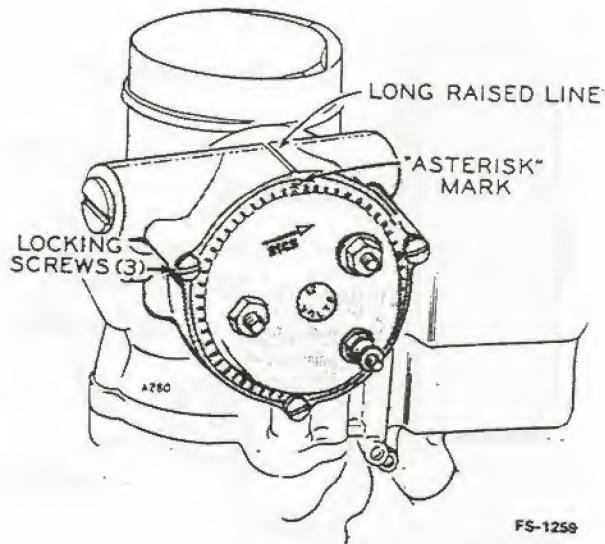

FIGURE 24. ELECTRIC CHOKES
**Electric Choke:** A 12 volt electric choke with vacuum booster is used on all engines. The adjustable choke cover is held in place by three screws (Figure 24). Perimeter of the cover is divided into sections by small raised marks. One mark is labeled zero and the twelfth mark from zero is labeled with an asterisk (\*), which indicates normal adjustment setting. A long raised line on top of the choke housing is used as the reference mark. Normal setting for the choke when running on gasoline is made when the asterisk mark lines up with reference line. Normal gaseous fuel setting is 10 to 12 notches counterclockwise from the asterisk mark.